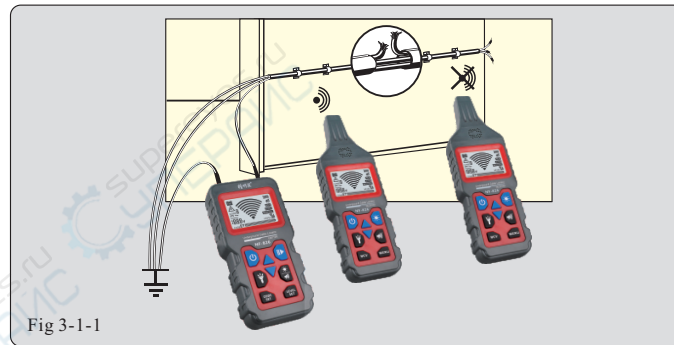

Fig 3-1-1
- ※ All lines which are not required must be connected to the auxiliary ground in accordance with Fig. 3-1-1.
- ※ Connect the transmitter to one lead and to an auxiliary ground according to Fig.3-1-1.